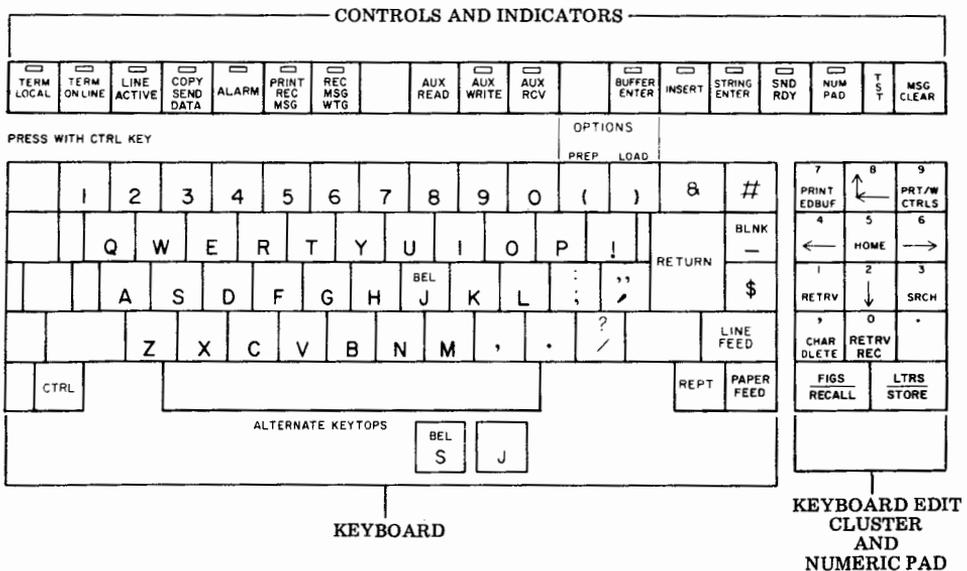

Fig. 2
2.10 The 43 teleprinter 5-level (BSC) can be identified by its keyboard layout. See Fig. 2.